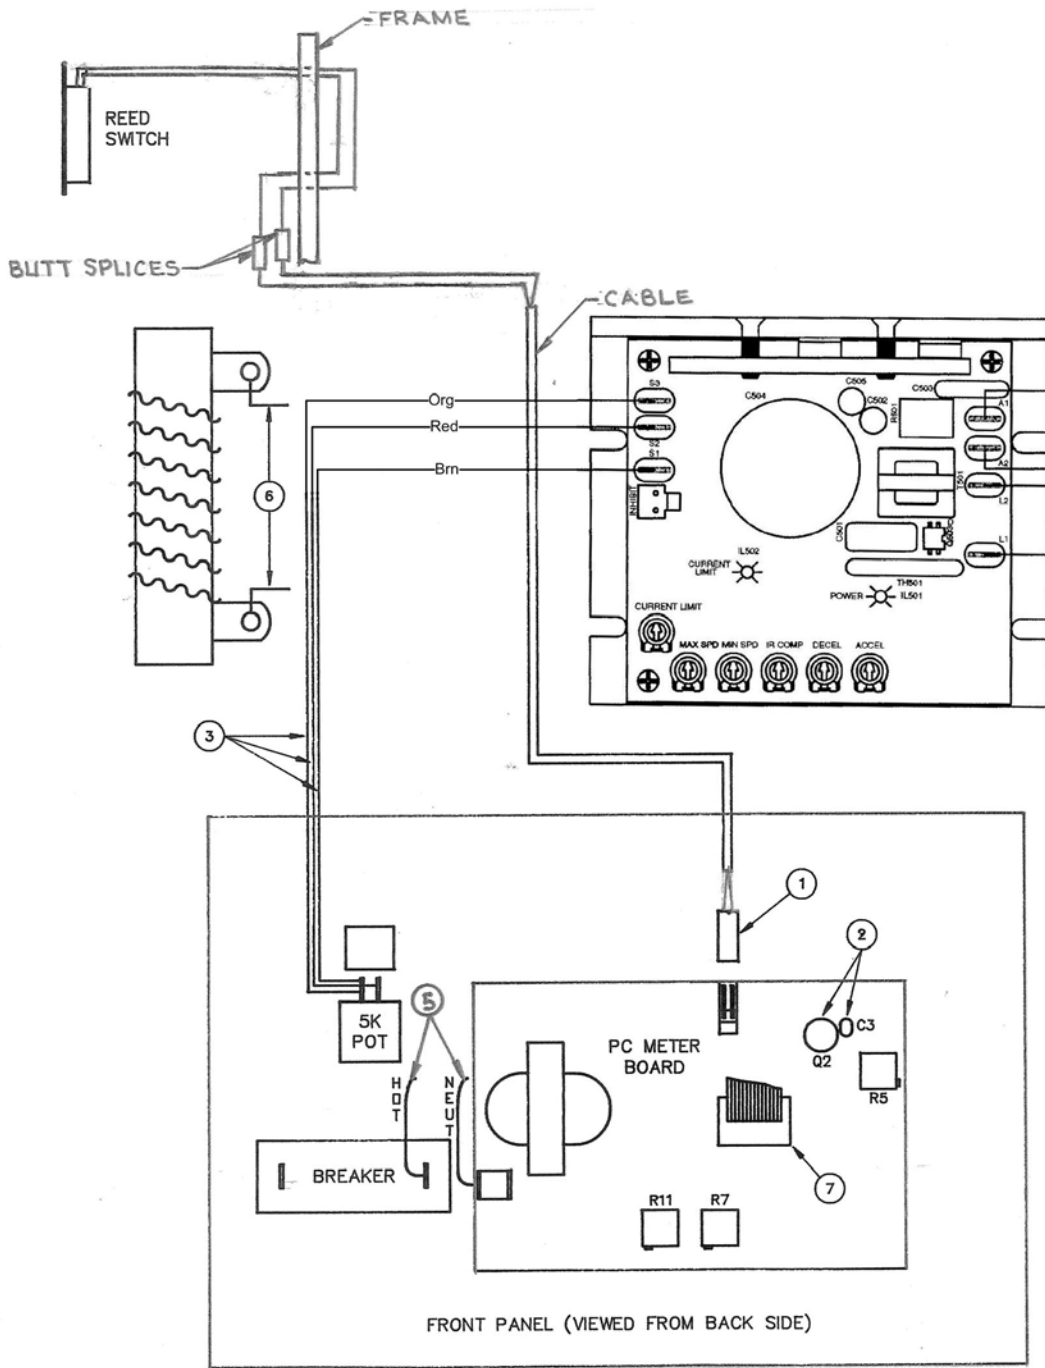

Figure 7 – Electric Controls
7.6.2.2 Locate PC board potentiometer R5 (Fig. 7) and adjust meter to 1000 RPM. If speed will not reach 1000 RPM, turn "MAX" (Fig. 7) potentiometer on motor control until 1050 RPM is attained with speed control full clockwise, then adjust control to 1000 RPM.
7.6.2.3 Turn outer panel speed control knob all the way counterclockwise. Adjust motor controller potentiometer labeled "MIN" (Fig. 7) until panel meter reads 40-50 RPM. Turn panel speed control knob all the way clockwise and read 1025-1050 RPM. Repeat adjustments if necessary.
- 7.6.3.4 Turn Panel meter switch to "torque" position, and turn speed control to far counterclockwise and torque zero knob to mid-range. Turn the machine on. Adjust torque zero pot R7 (Refer to Fig. 7) to zero on meter.
- 7.6.3.6 Adjust PC meter board potentiometer R11 to 41.0-41.5 units of torque on meter. Refer to Fig. 7.
- 7.6.3.7 Release prony brake by removing weight and/or loosening bolts and adjust zero potentiometer on meter board so that meter in torque mode reads zero. Refer to Fig. 7.
LOSS OF RPM READING	<ol style="list-style-type: none"><li>1. Make sure reed switch connector is plugged in to circuit board header.</li><li>2. Check the Reed switch function (sensing bar magnets on main shaft). Signal may not be reaching circuit board at connector (1) Fig. 7. Place Ohm meter lead in receptacle (1) from switch and turn shaft magnets past switch and note meter go low and high on ohms reading. If no switching, adjust bracket by bending or move bracket to respond to magnet movement.</li><li>3. If switch is switching, and signal is entering circuit board, measure on base of Q2. If the emitter of Q2 is not sending signal to C3, then replace Q2.</li></ol>
LOSS OF POWER	<ol style="list-style-type: none"><li>1. The "ON" breaker may be opening because of a short hot to neutral (5) Fig. 7.</li><li>2. Unplug power cord, and using an ohmmeter, see if breaker is closed with the "ON" switch in the "ON" position.</li><li>3. Follow the heavy wires from (5) to find the short (hot to neutral or ground).</li></ol>
TORQUE READINGS LOW OR ERRATIC	<ol style="list-style-type: none"><li>1. Check the small white and yellow wires on the 0.1 ohm rib wound resistor (6) Fig. 7.</li><li>2. Repair if loose or broken.</li></ol>
LOSS OF BOTH TORQUE AND SPEED READINGS	<ol style="list-style-type: none"><li>1. Check 14 pin DIP plug (7) Fig. 7</li><li>2. Check speed-torque panel switch functions.</li></ol>
LOSS OF SPEED CONTROL	<ol style="list-style-type: none"><li>1. Check the 5K pot leads (3) Fig. 7 to motor control board.</li><li>2. Check SCR's (4) Fig. 7 on motor control board.</li></ol>